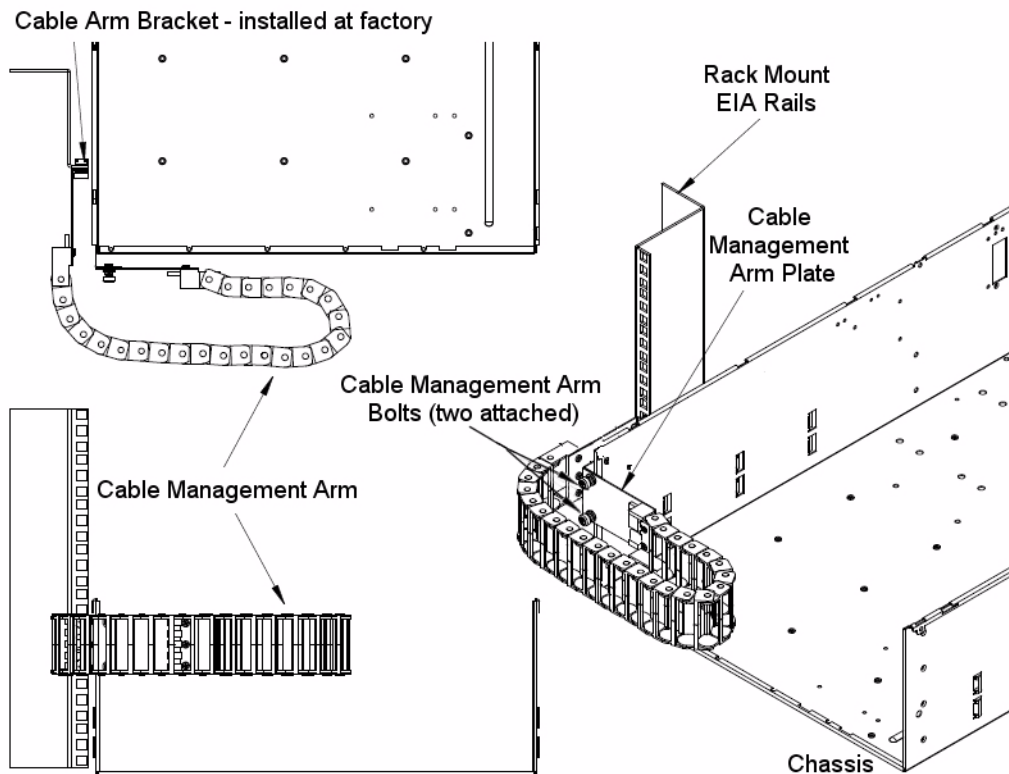

Figure 5-5 Cable Management Arm
The cable management arm is an optional addition to the MIS chassis that helps keep cables organized in the rack. It attaches to a plate on the rear of the MIS chassis and to the rack in which the chassis is mounted. The cable management arm comes in a length designed for 26" deep racks, such as the D-Rack. It can be shortened to accommodate other rack sizes (Figure 5-5).
4. Once complete, slide the arm down the cables until there is enough slack to allow the arm to be bolted into place on the Cable Arm Bracket (Figure 5-5 on page 166).
6. Then, wrap the arm around itself (as in Figure 5-5).